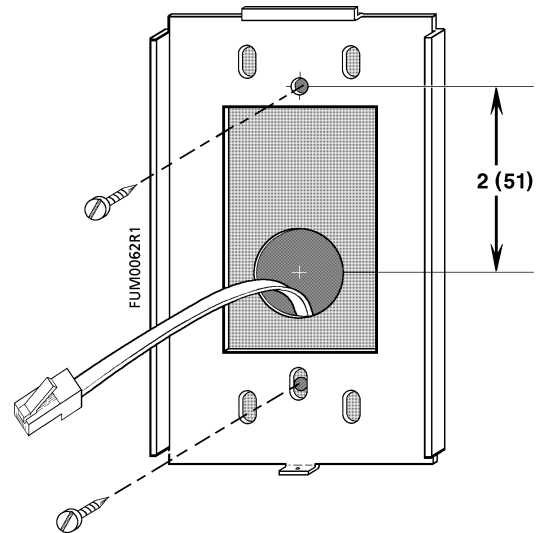

Figure 4. Installation without Existing Cutout.
- a. Using the mounting plate as a template, mark the location for the two-center mounting holes (Figure 4).
- c. Measure 2 inches (51mm) down on the line from the top mounting holes and mark the location for the clearance hole for the controller interface port (Figure 4).